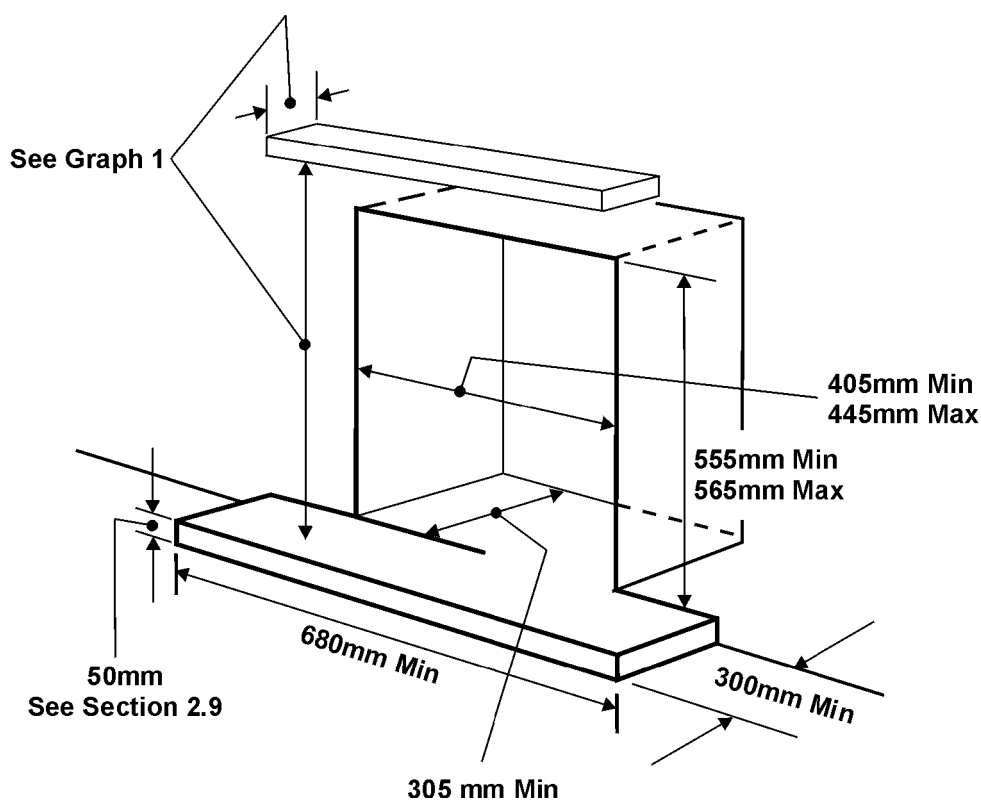

Figure 1. Hearth and fireplace dimensions
To a fireplace complete with surround and hearth as shown in figure 1. The required fireplace, hearth, and clearance dimensions are shown in figure 1.
2.9 The appliance must be mounted behind a non-combustible hearth (N.B. conglomerate marble hearths are considered as non-combustible). The appliance can be fitted to a purpose made proprietary class “O”- 100°C surround. The hearth material must be at least 12mm thick. The periphery of the hearth (or fender) should be at least 50mm above floor level to discourage the placing of carpets or rugs over it (See figure 1).